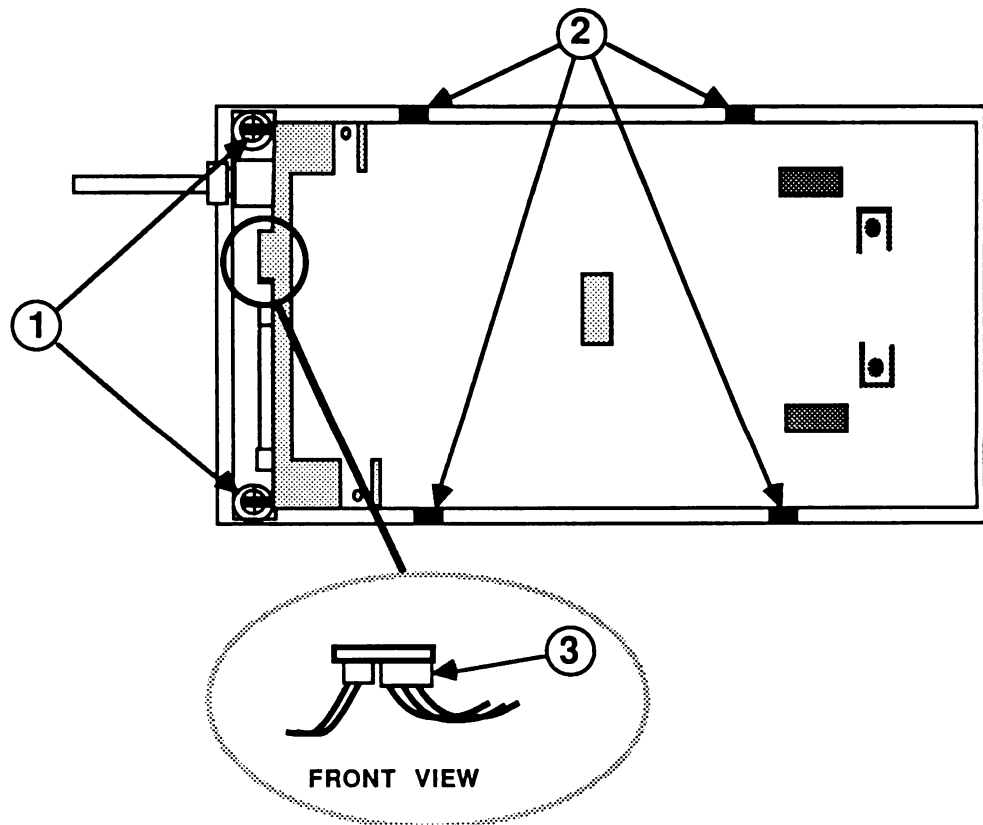

FIGURE 2
2. Washers with black wire guides connected to them are held in place by two screws (Figure 2, #1). Bend the black wire guide on top of each screw out of the way, and remove the two screws.
3. Remove the four small black rubber guides (Figure 2, #2) from the sides of the case with needlenose pliers.
4. **Without pulling on the wires**, disconnect the eject button connector (Figure 2, #3). If necessary, gently pry off the connector with a small flathead screwdriver.